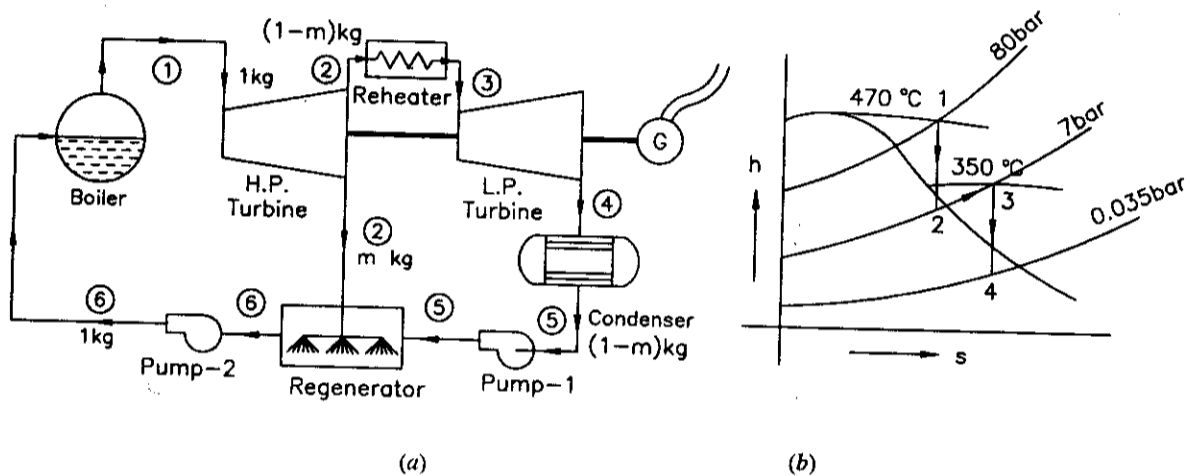

Fig. Prob. 22.28.
**Solution.** The arrangement of the components is shown in Fig. Prob. 22.28 (a) and processes are represented on  $h$ - $s$  diagram as shown in Fig. Prob. 22.28 (b).
The points 1, 2, 3 and 4 are marked on  $h$ - $s$  diagram as shown in Fig. Prob. 22.28 (b) and enthalpies are noted from the  $h$ - $s$  chart.